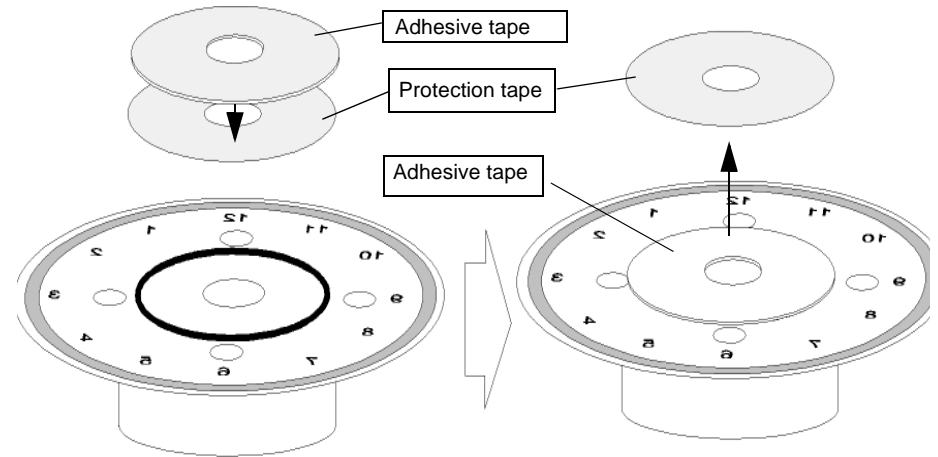

Figure 5-55. Sticking the Protection Tape to the PF Loop Scale
**CHECK POINT** It is no problem if the outline of the Base plate dose not just fit to the printed circled line of the PF Loop scale. Refer to Figure 5-55